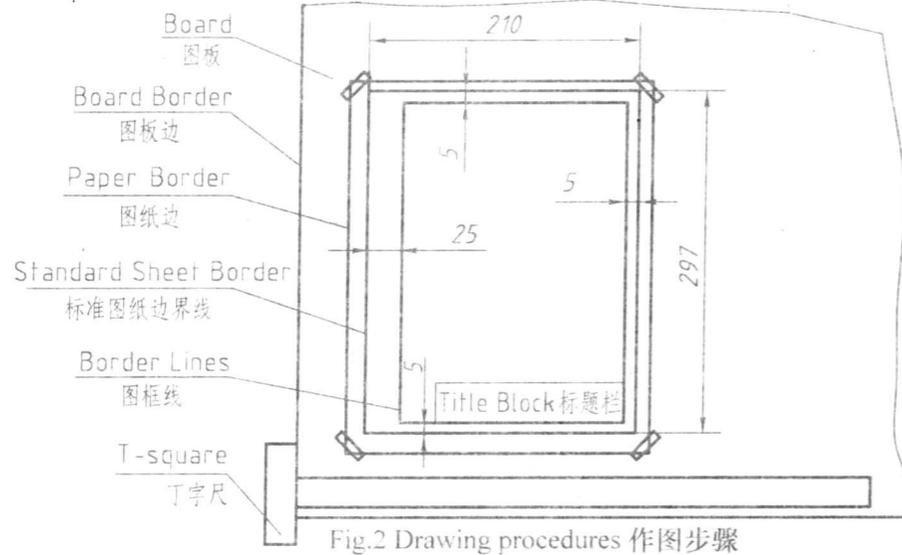
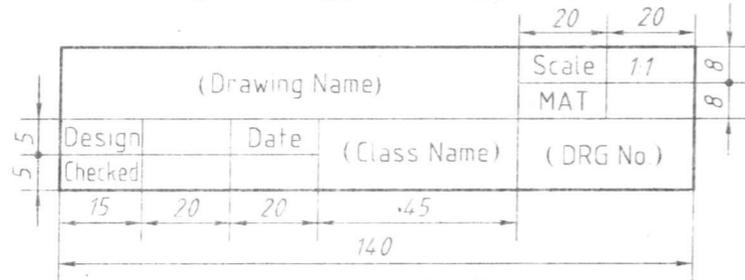

Fig.2 Drawing procedures 作图步骤
Fig.3 Title block 标题栏
(1) Place the drawing sheet on the lower left of the board with gummed tape (seen in Fig. 2), then draw the boundary and title block on the lower right corner of the sheet according to the national standard (seen in Fig. 3). 将图纸用透明胶带固定在图板左下方(见图2),然后按标准幅面画出边框线和图框线,并在图框的右下角画一标题栏(见图3)。
(2) Draw the rough sketches using thin continuous lines and then finish them using thick continuous lines. In order to improve efficiency, you had better thicken curved lines first and straight lines later, and draw the same line styles at the same time. 先用细实线打好底稿,然后加深。加深时线型应按先曲后直的顺序进行,为了提高工作效率,对于同一类线型可一起完成。
(3) Dimension, lettering and check the drawing. 标注尺寸,书写文字,最后对全图进行校核。